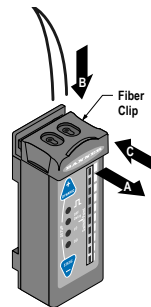

Figure 2. Installing Fibers into the R55F Sensor
**Note:** See Figure 2 on p. 2 for the location of the fiber clip.
2. Slide the fiber clip to the open position (A).
3. Insert one fiber end into each port (B).
5. Slide the fiber clip back into place, locking the fibers into position (C).